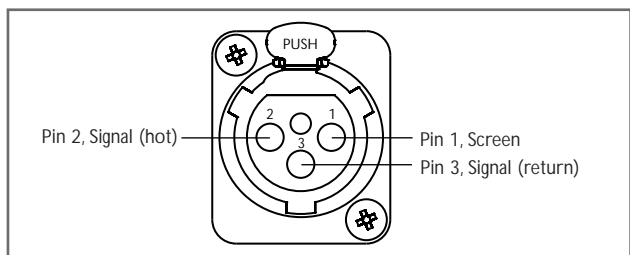

Fig. 6 Input Connection Pins
**Connection:** Two connections are required for each monitor: one for mains power and one for the audio signal. The mains supply is supplied specifically to comply with local statutory safety approvals and alternatives should not be substituted. If you intend to use your monitors in an alternative territory, please contact ATC for advice. The mains connection must always be earthed. The signal cable and plug (not necessarily supplied) should be of a good quality and XLR terminated. Poor cable and plug quality will compromise the performance of your monitors. The signal input pin configuration is illustrated in **Fig 6**. Due to the nature of the electronics in ATC active loudspeakers, it is quite normal for a sound to be heard from the speaker when the power is applied or disconnected. The noise heard will not damage the speaker. Although ATC use the highest grade components, a different noise may be heard from each speaker due to slight variations in the amplifier components.